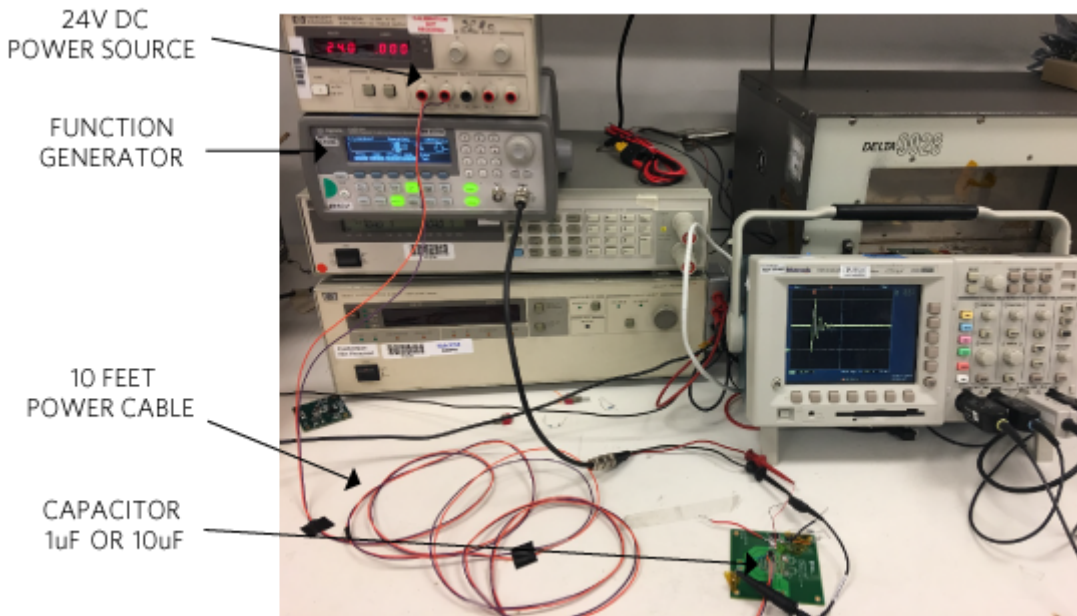

Figure 3. Cable ringing test setup.
**Figure 3** depicts a lab setup to demonstrate cable ringing. A 24V DC power source is used to emulate a 24V DC battery from a truck. A 10-foot cable connects the power source to a ceramic capacitor (either 1 $\mu$ F or 10 $\mu$ F) to emulate an input capacitance of a fleet tracking device.